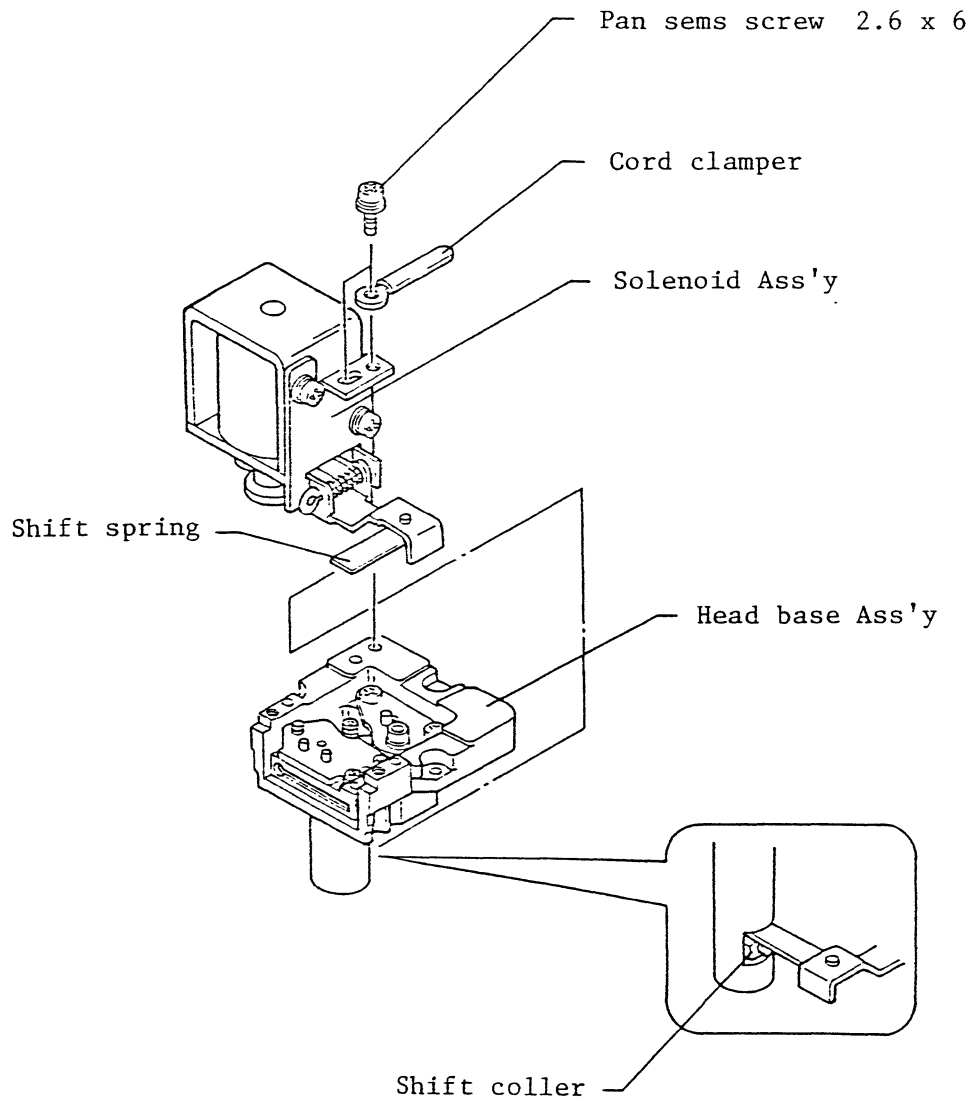

Fig.452 Replacement of head base Ass'y (3)
- (k) Remove the two mounting screws from the solenoid Ass'y, and detach the solenoid Ass'y and cord clamper (Fig. 452).
At this time, be sure to set the shift spring (solenoid Ass'y) to the curved side of the shift collar (head base Ass'y) (Fig. 452).